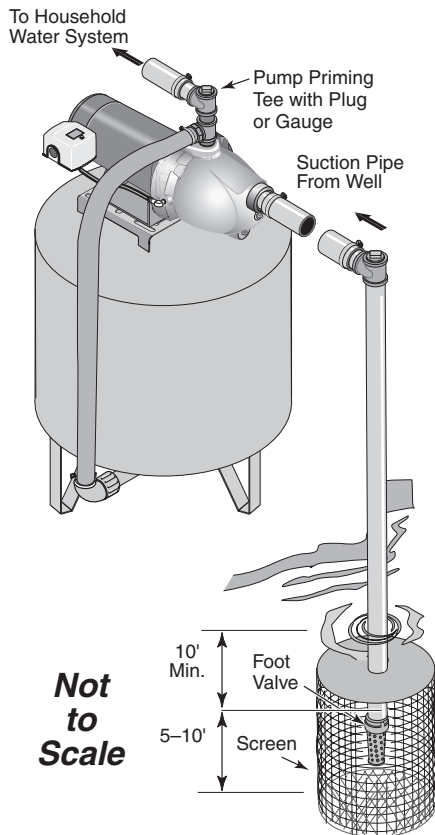

Figure 3 - Surface Water Installation
Installation for Surface Water (Figure 3)
2. Assemble a foot valve and suction pipe (see Figure 3). Make sure that the foot valve works freely. Use PTFE pipe thread sealant tape or a PTFE-based pipe joint compound on threaded pipe joints. Protect the foot valve assembly from fish, trash, etc, by installing a screen around it (see Figure 3).
4. Install a priming tee, priming plug, and suction pipe to the pump (see Figure 3). Support the pipe so that there are no dips or sags in the pipe, so it doesn't strain the pump body, and so that it slopes slightly upward from the well to the pump (high spots can cause air pockets which can air lock the pump). Seal the suction pipe joints with PTFE pipe thread sealant tape or a PTFE-based pipe joint compound. Joints must be air- and water-tight. If the suction pipe can suck air, the pump cannot pull water from the water source.